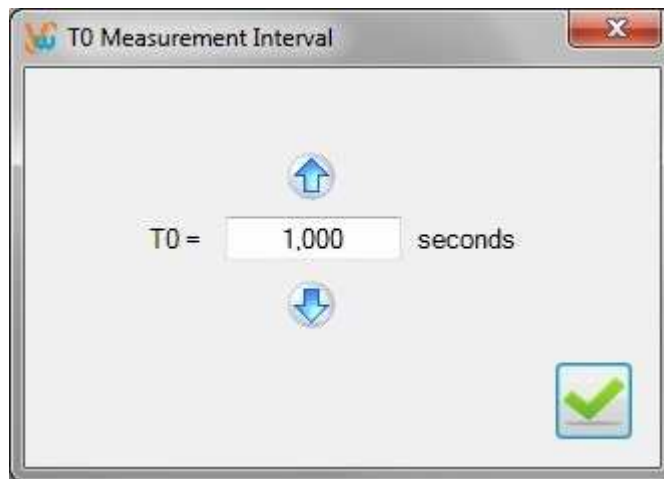

Figure 7: Selecting the T_0 time range
- Click on the  button. The selection menu is displayed (Figure 7).